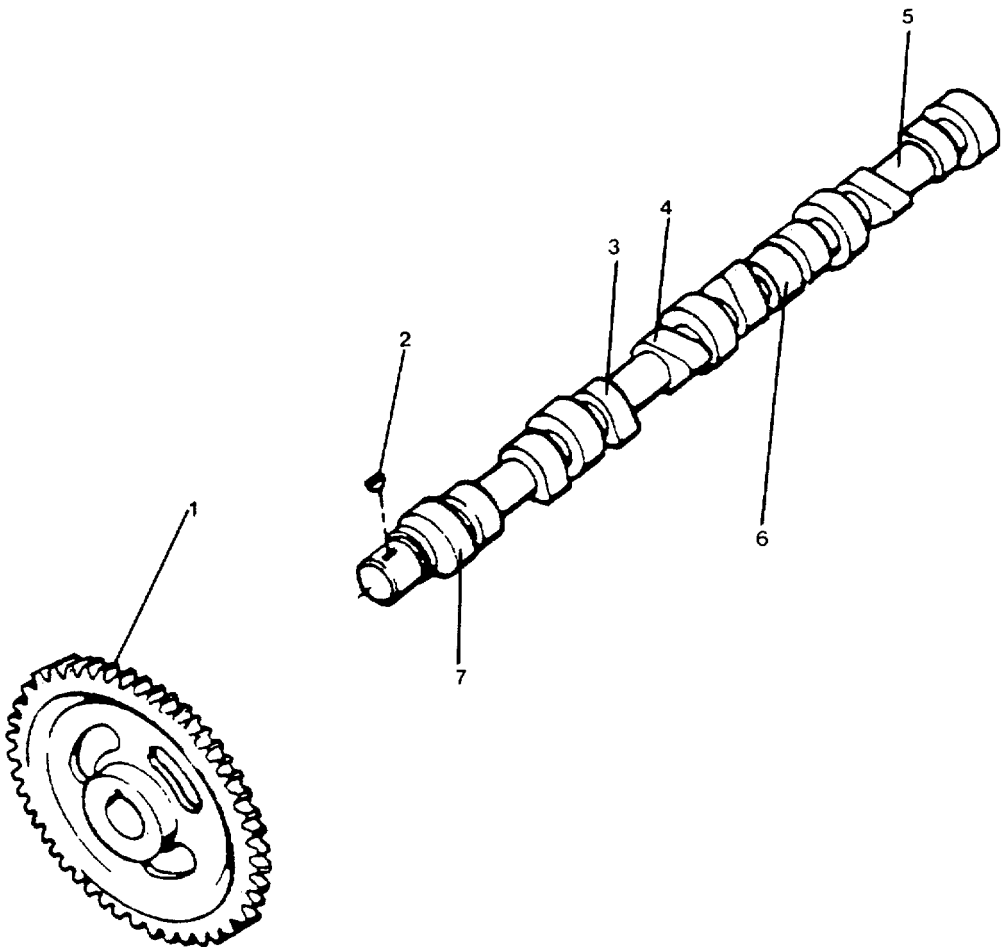

FIGURE 4-30. Camshaft and, Gear Assembly.
a. Remove the spur gear (1) with a hydraulic press (FIGURE 4-30).